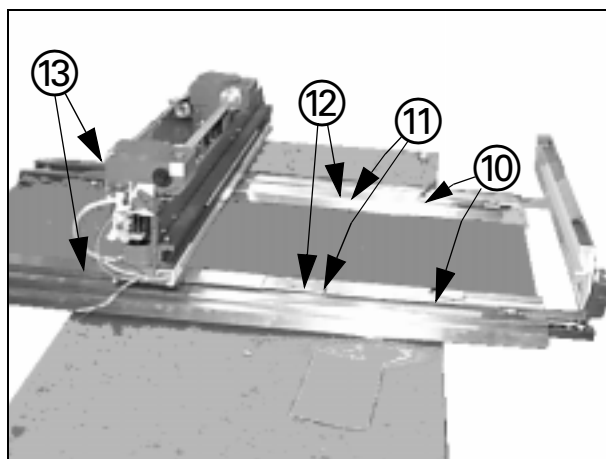

Fig. 10
- Remove the two brackets (10/Fig.10) by first removing the set screws with washers.
- Remove the eight Allen countersunk screws and the four black set screws from both sides (11...13/Fig.10).